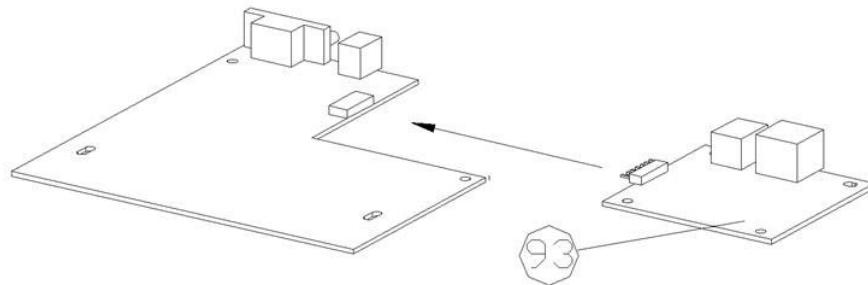

Figure 10.1.4
8. Pull out the Ethernet card (93) from the main board, and then insert the new Ethernet card (93) to main board as shown in Fig. 10.1.4.